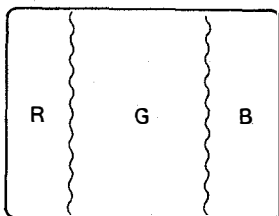

Fig. 1-3.
7. Set the screen to green only (R and B on the FRONT PANEL (L) are in the IN position and G in the OUT position).
8. Turn purity knob as shown in Fig. 1-3 to bring the green on the center of the screen.